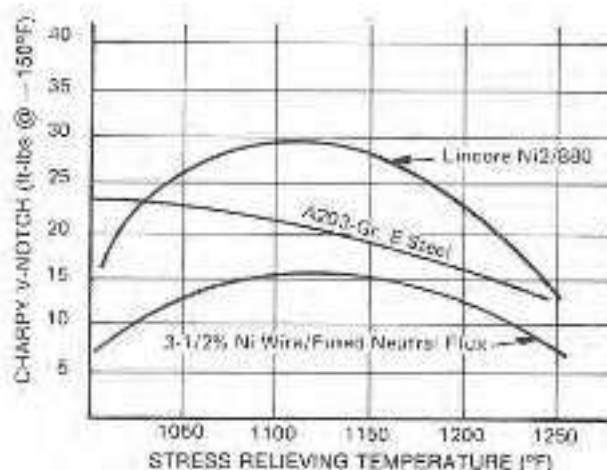

Figure 3
- H The optimum stress relieving temperature for the nickel deposits used to join A203-Grade E steel is 1100 ± 25°F. Nickel deposits stress relieved at temperatures below 1050°F or above 1150°F exhibit a severe loss of notch toughness at -150°F. (See Figure 3.)